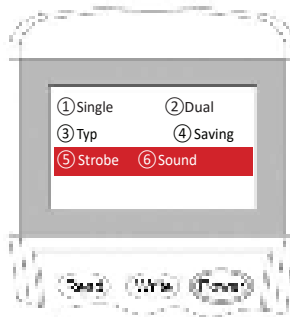

Figure 13
3. Input the **"5"** for Strobe type or **"6"** for **Sounder** type, then press **"Write"** to change the setting into the desire mode (Figure 13).